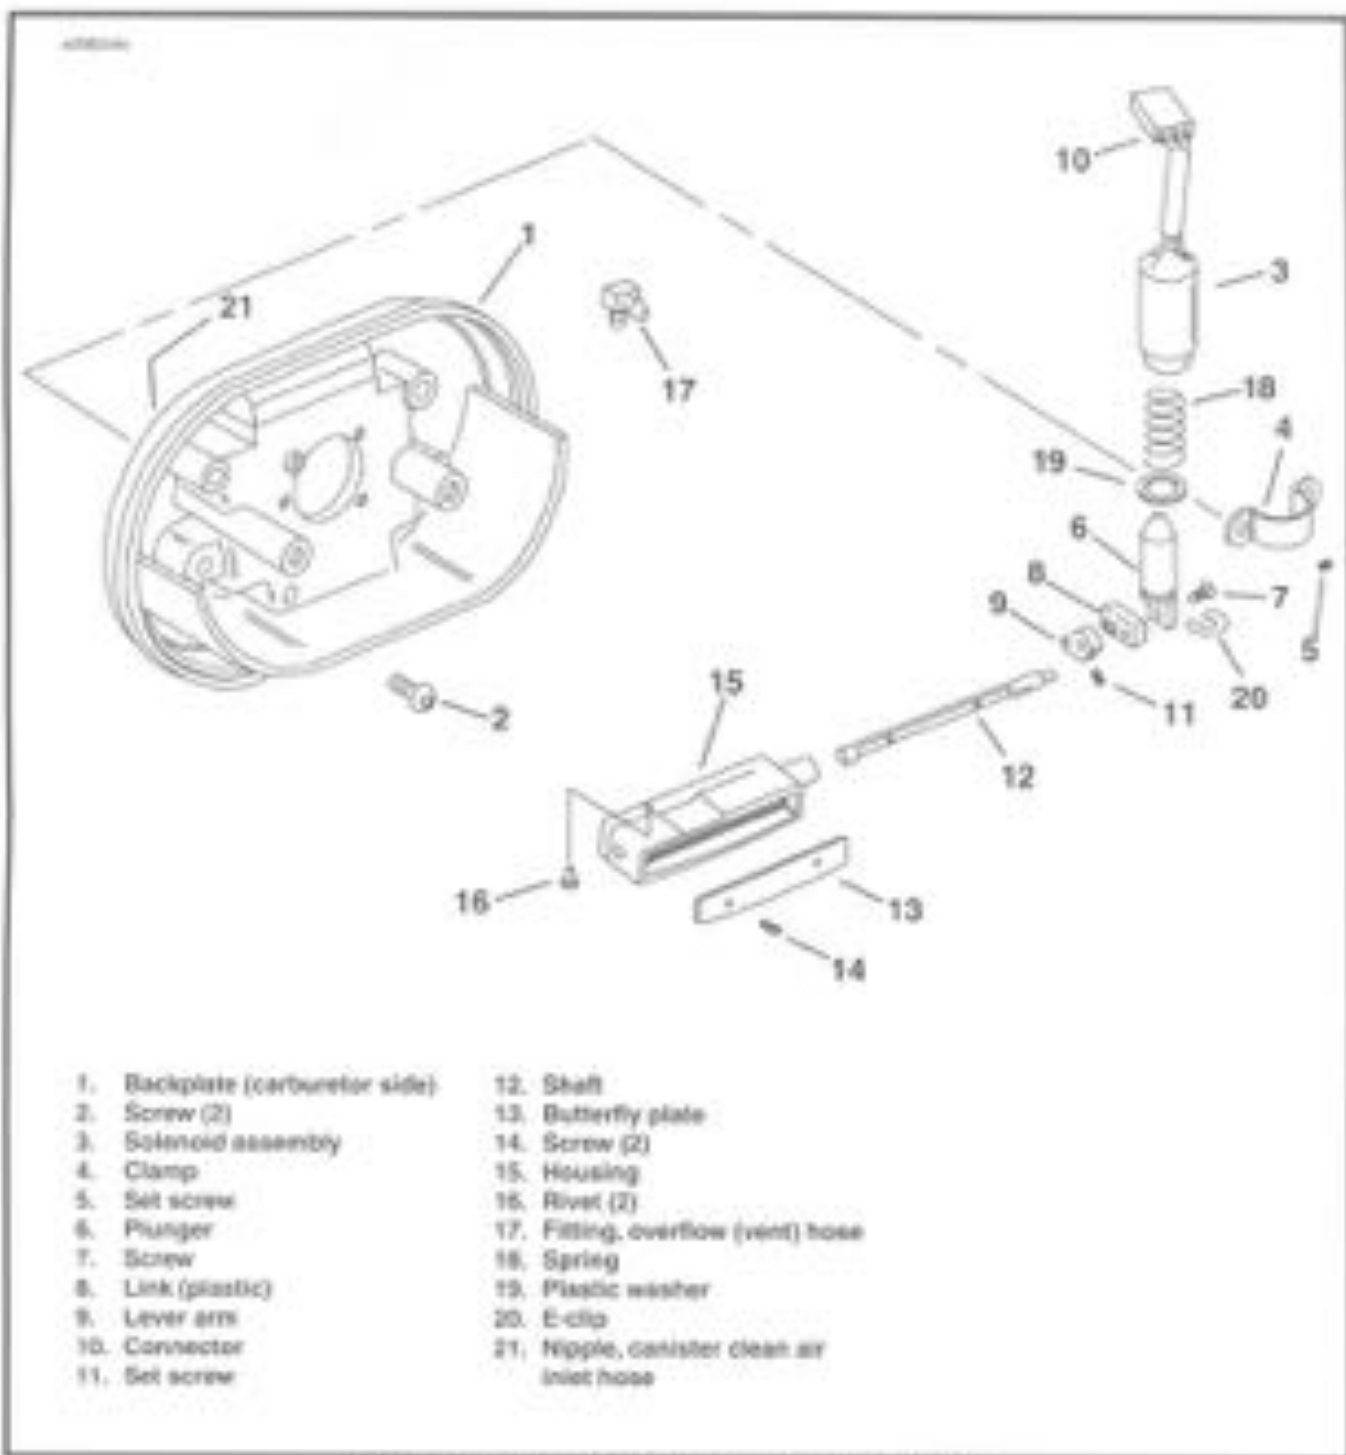

Figure 4-15. Air Cleaner Backplate - California Models
1.3. Butterfly valve is not opening or closing because mechanical linkage connecting butterfly valve to solenoid plunger is broken or missing. A broken solenoid spring (item 18, Figure 4-15) will prevent butterfly valve closure.	1.3.1 See Figure 4-15. Check that all linkage parts are properly assembled and functioning. A broken solenoid spring will require replacing the solenoid. See REMOVAL and INSTALLATION AND ADJUSTMENT, BUTTERFLY VALVE SOLENOID.
1. See Figure 4-15. Unplug 3-pin connector (10) from solenoid.
2. Using a screwdriver, open the butterfly valve by gently pushing inward on the top side of the butterfly plate (Item 13, Figure 4-15).
Butterfly Valve Solenoid (Figure 4-15)
Butterfly Valve / Solenoid (Figure 4-15)